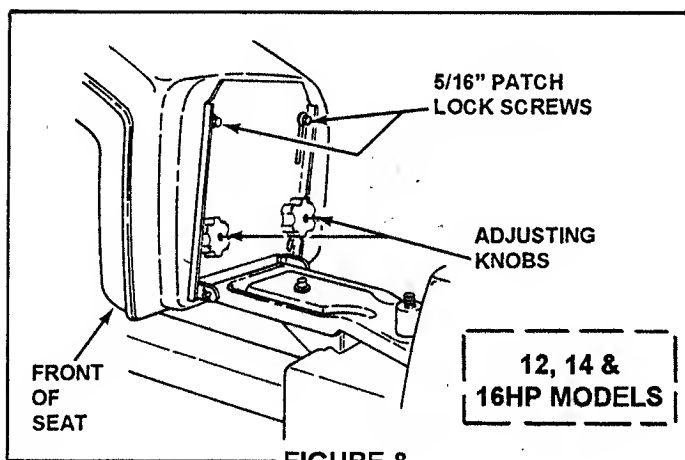

FIGURE 8
1. Fold the hinged seat plate forward and follow steps 2 through 7 (above) for 8 & 9HP models. See Figure 8.